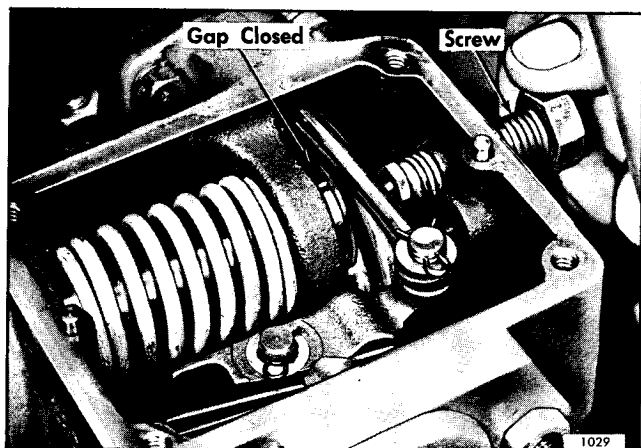

Fig. 6 - Closing Modulator Gap with Special Screw
- C. Temporarily install the cap screw ($1/2$ "-13 x 2") into the front of the control housing and thread the screw inward until the gap between the low speed cap (61) and high speed spring plunger (39) just closes, Fig. 6, be careful that the high speed spring plunger is not moved.
- E. Install the cover to the governor control housing gasket. Install the control housing cover assembly being sure that throttle shaft pin is between the differential lever (35) and torsion spring (36). Secure the cover with the four screws and lock washers.